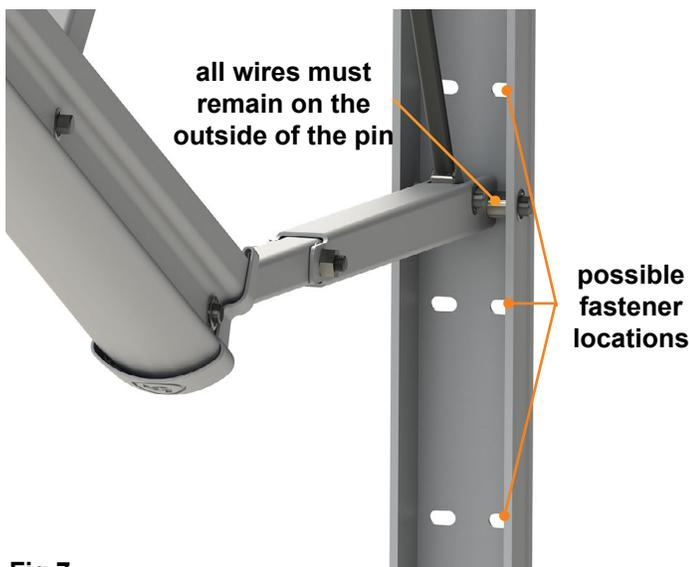
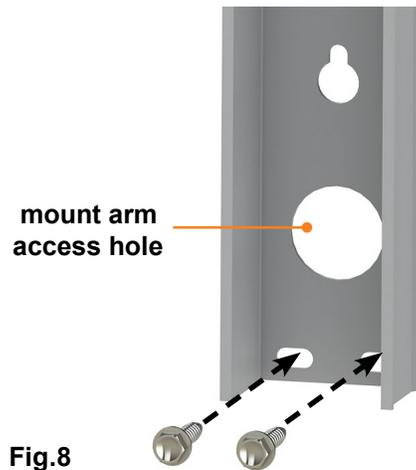

Fig.7
Fig.8
5. Finish the task of securing the mount arms. Make sure the awning assembly is square on the unit prior to completion. Use two #14 x 1 ¼" screws in one of the provided locations in the middle of the arm (**Fig.7**), and two #14 x 1 ¼" screws (**Fig. 8**) in the bottom of the arm.
9. Run the wires from the unit through the provided access hole in the mount arm (**Fig.8**).
NOTE: If top install, make sure all wires are always on the outside of the pin that secures the pitch arm to the mount arm. (**Fig.7**).